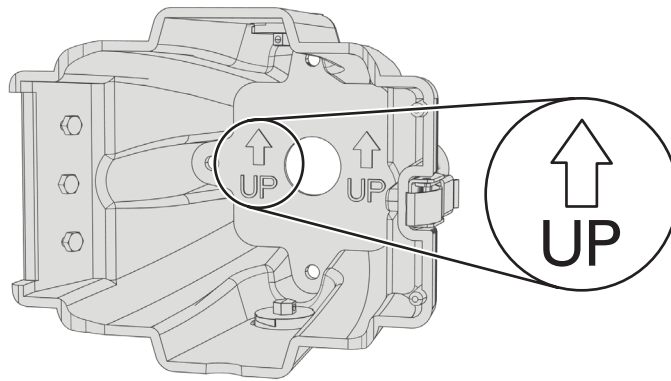

Figure 12. J-Box Orientation
3. Orient the J-box so that the arrows and the word "UP" are pointed up (refer to Figure 12).